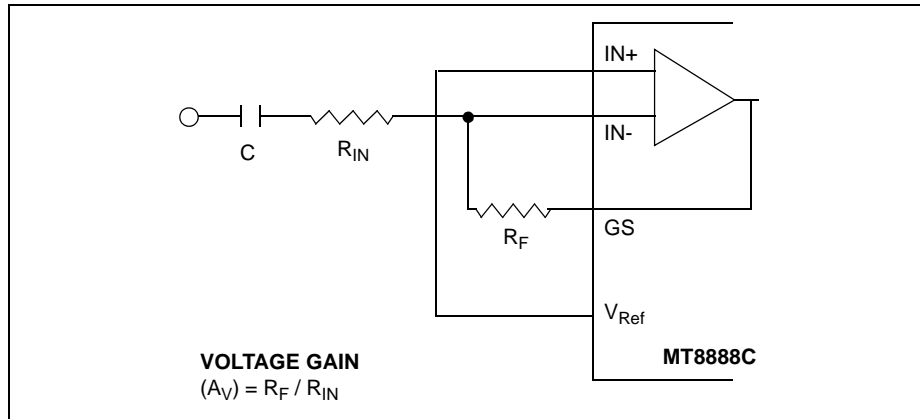
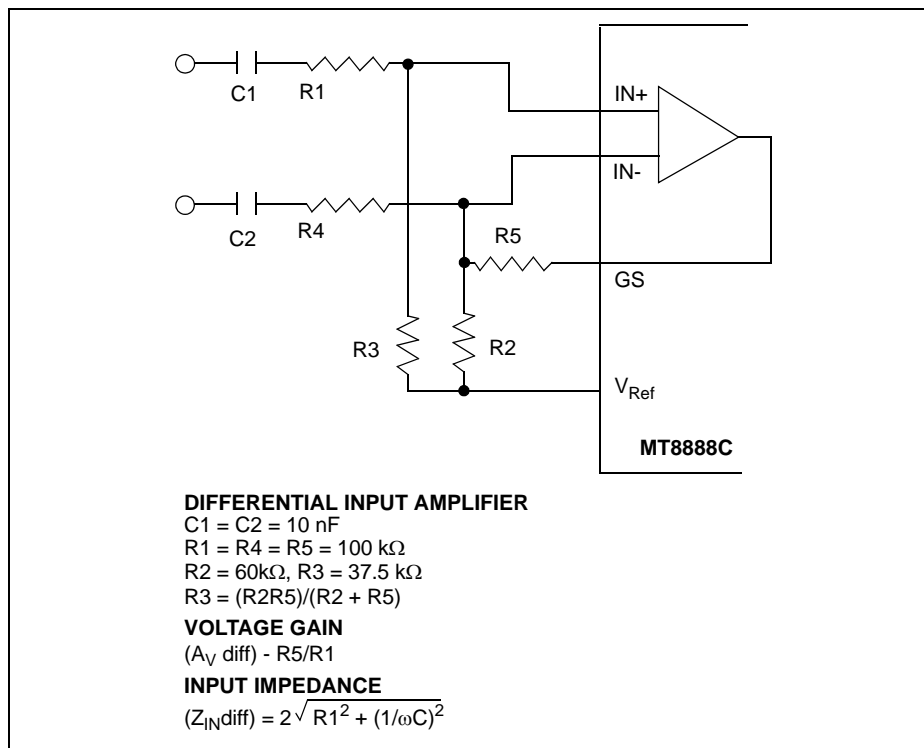

Figure 3 - Single-Ended Input Configuration
Figure 4 - Differential Input Configuration
The input arrangement of the MT8888C provides a differential-input operational amplifier as well as a bias source (V_{Ref}), which is used to bias the inputs at $V_{DD}/2$. Provision is made for connection of a feedback resistor to the op-amp output (GS) for gain adjustment. In a single-ended configuration, the input pins are connected as shown in Figure 3. Figure 4 shows the necessary connections for a differential input configuration.